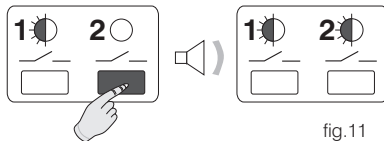

fig.11
- Hold down **2**/**—** key until a single acoustic signal sounds, then release it. Both **LED** are flashing. **Channel 2** is arranged for interlocking to the “**Master**” chronothermostat (fig. 11).